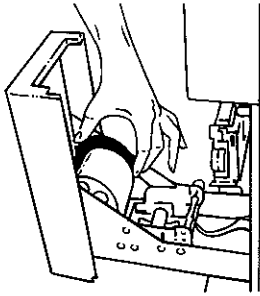

Figure 3.23 Removing the take-up reel containing the yellow backup copies.
1. Open the printer drawer on the control panel and remove the large take-up reel containing the yellow backup copies of the cycles (Fig. 3.23).